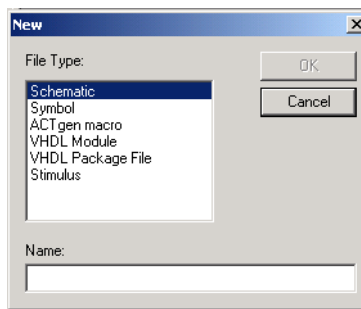

Figure 5-1. New Dialog Box
2. **From the File menu, click *New*.** This displays the New dialog box, as shown in Figure 5-1.